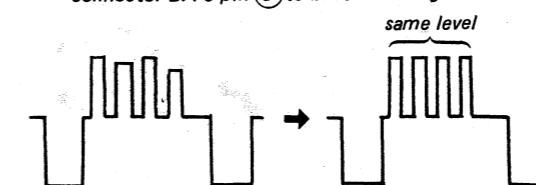

Fig. 1
2. Connect oscilloscope at pin (3) of BA-6 connector.
4. Adjust RV519 (HA board) for the waveform at connector BA-6 pin (3) to become as Fig. 1.